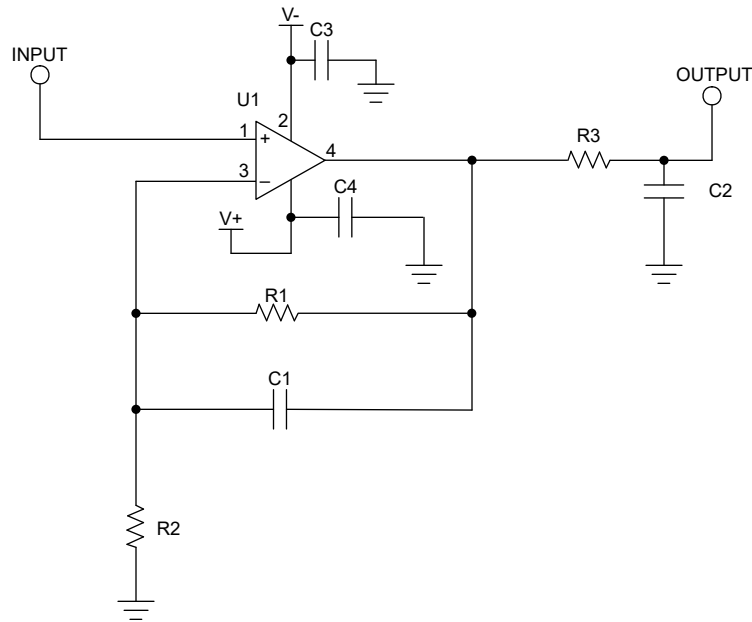

Figure 7-3. Schematic for Noninverting Configuration Layout Example
Place 0.1 μF bypass capacitors close to the power-supply pins to reduce errors coupling in from noisy or high-impedance power supplies. For more-detailed information on bypass capacitor placement, see Figure 7-3.
- Place the external components as close to the device as possible. As illustrated in Figure 7-3, keeping R_F and R_G close to the inverting input minimizes parasitic capacitance on the inverting input.